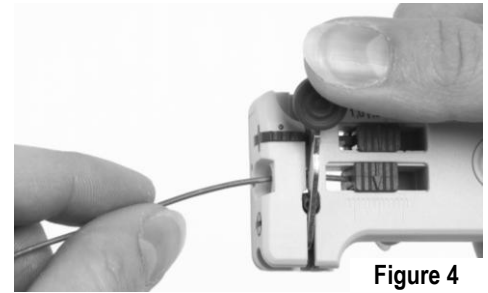

Figure 4
4. Push the wire to be stripped into the Wire Guide until it touches the Strip Length Stop. See Figure 4.